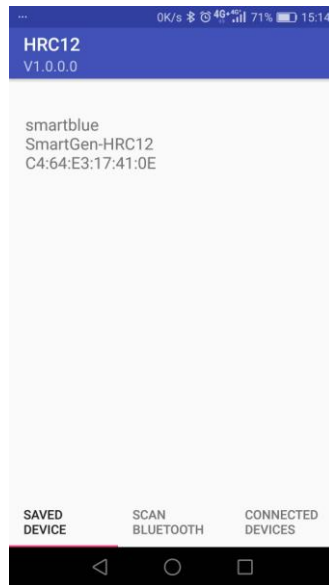

Fig. 5 Saved Device Interface
(1) Download HRC12 Bluetooth Communication Module APP from SmartGen and install it in the mobile phone; open mobile APP interface as Fig. 5 Saved Device Interface, and the list shows the saved device. Click the connected device (it will jump to the connected interface if the connection is successful. If connection is overtime, or device is far to connect, it will display on the current page.). Press longer to delete (Delete Dialog Box will appear.).